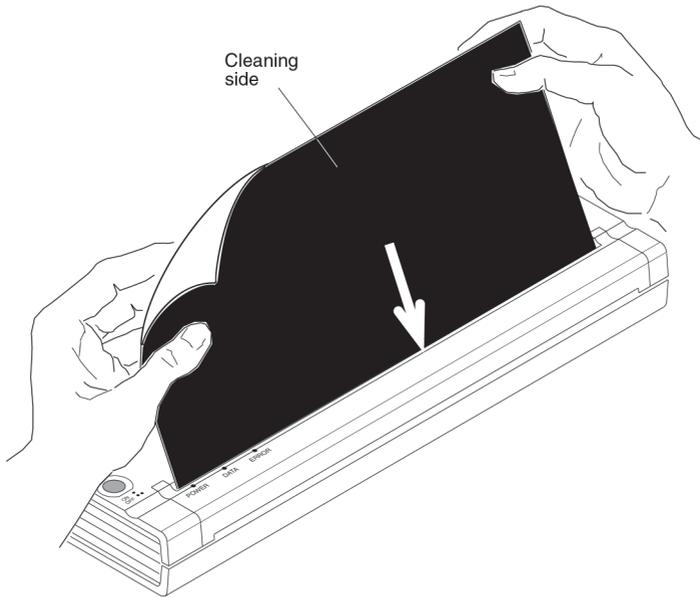

Figure 18. Cleaning the platen roller.
3. Insert the black cleaning cloth that came with the printer into the printer’s paper input slot with the rough black side, which contains the cleaning material, towards the front of the printer. See Figure 18. The printer pulls the Cleaning Cloth through.